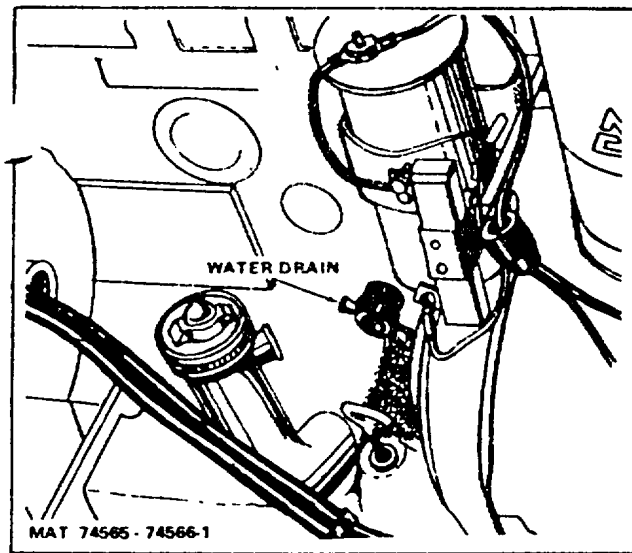

Figure 3. Water Drain
2. Remove the radiator cap, open the drain cocks located underneath the ignition coil (Figure 3) and in radiator outlet elbow to drain the cooling system.
1. Open water drain (Figure 3).